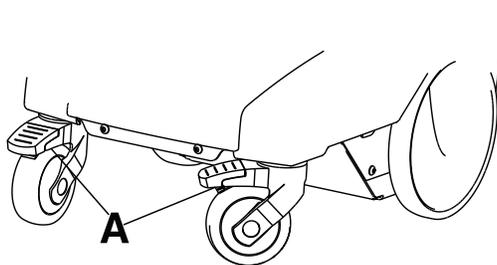

Figure 6: Wheel locks
To apply the wheel locks, push down (A) (Figure 6 on page 21) with your foot.
To release the wheel locks, pull up (A) (Figure 6 on page 21) with your foot.